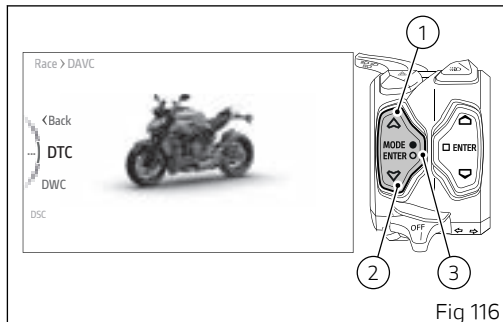

Fig 116
- Select the Riding Mode you wish to customise and press ENTER (3).
- Select the "DAVC" item and press ENTER (3).
- Select the "DTC" (Fig 116) item and press ENTER (3).